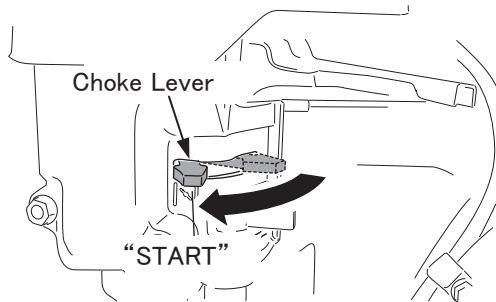

Fig.17
2. In cold weather or when the engine does not start easily, set the choke lever to the "Start" position. This is not necessary when the engine is already warmed up. (Fig. 17)